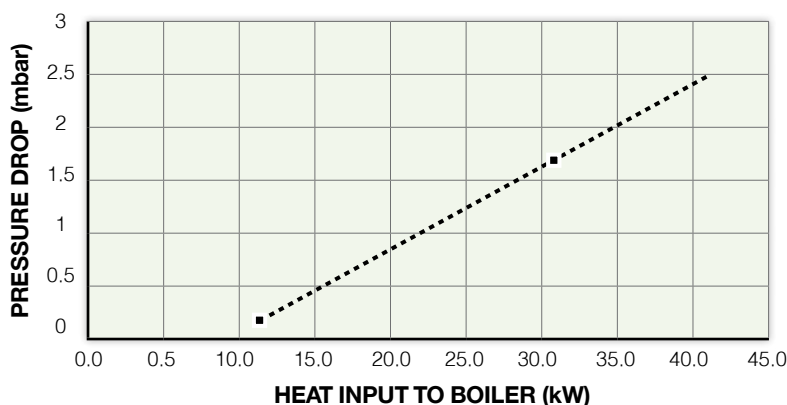

FIGURE 2. GAS COCK PRESSURE DROP
- 4.3.3 The external gas cock could further reduce the operating pressure when measured at its test point. The pressure drop is relative to the heat input to the boiler (kW), see Figure 2.